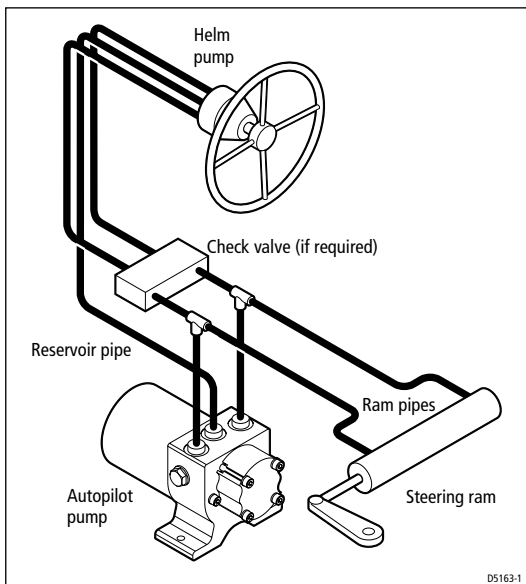

Figure 5: Autopilot pump location for two line systems
- If the boat has a single helm pump system **without** check valves, you must incorporate a double pilot check valve (part number M81166) as shown in *Figure 5*.
- A double pilot check valve may also be necessary on long tubing runs - otherwise tubing expansion may cause poor autopilot performance. Install the check valve as shown in *Figure 5*.
*Figure 5* shows a typical two line steering system. Hydraulic fluid flows into the ram in either direction, depending on the direction the helm pump rotates. Connect the autopilot pump to the steering system as shown in *Figure 5*.